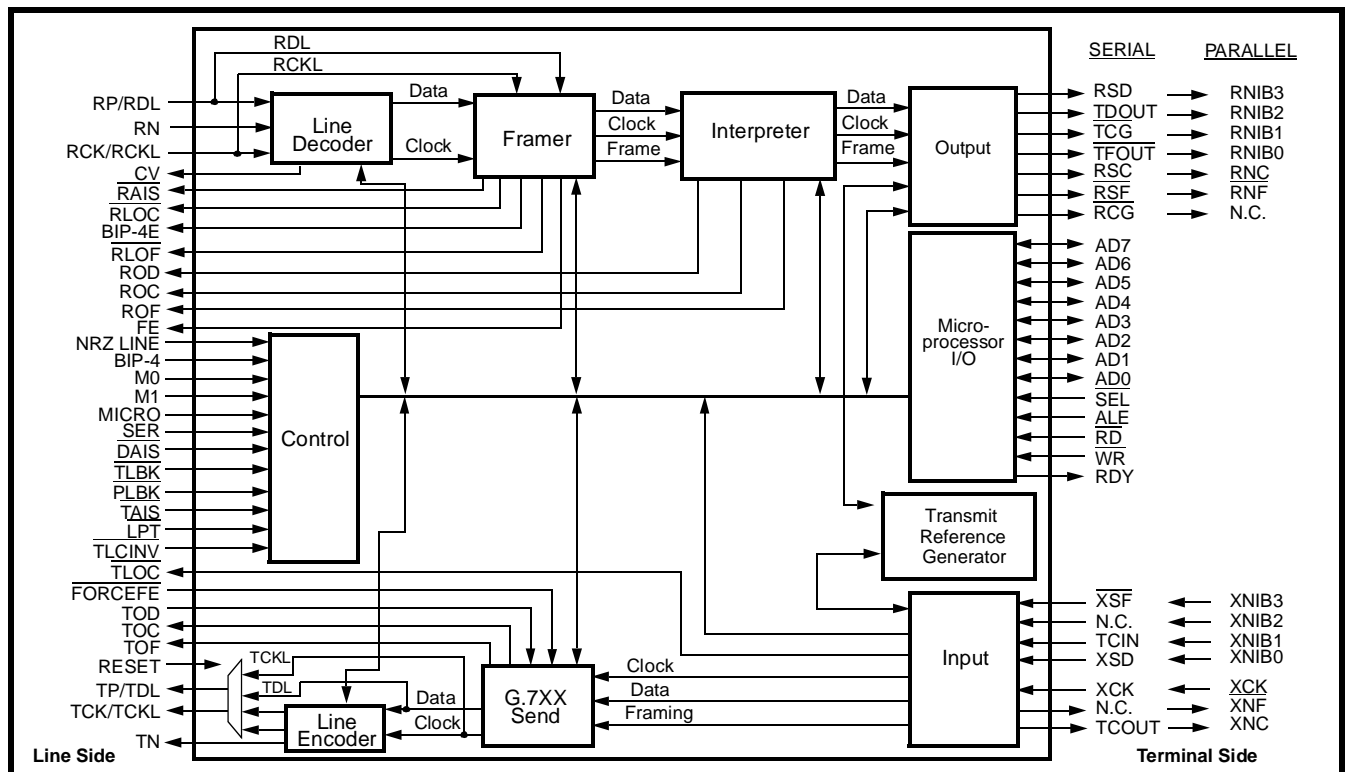

Figure 1 - Functional Block Diagram
The block diagram for the E2/E3F is shown in Figure 1. The E2/E3F receives NRZ data signal (RDL) and clock signal (RCKL), or a positive (RP) and negative (RN) rail signal and clock signal (RCK), from a line interface circuit. The selection of the line interface, dual rail or NRZ, is controlled by the external lead labeled NRZ LINE. Indications of HDB3 coding violation errors are provided on an external signal lead (CV) as pulses. Coding violation errors are also counted in an 8-bit saturating counter accessed by the microprocessor through the memory map.